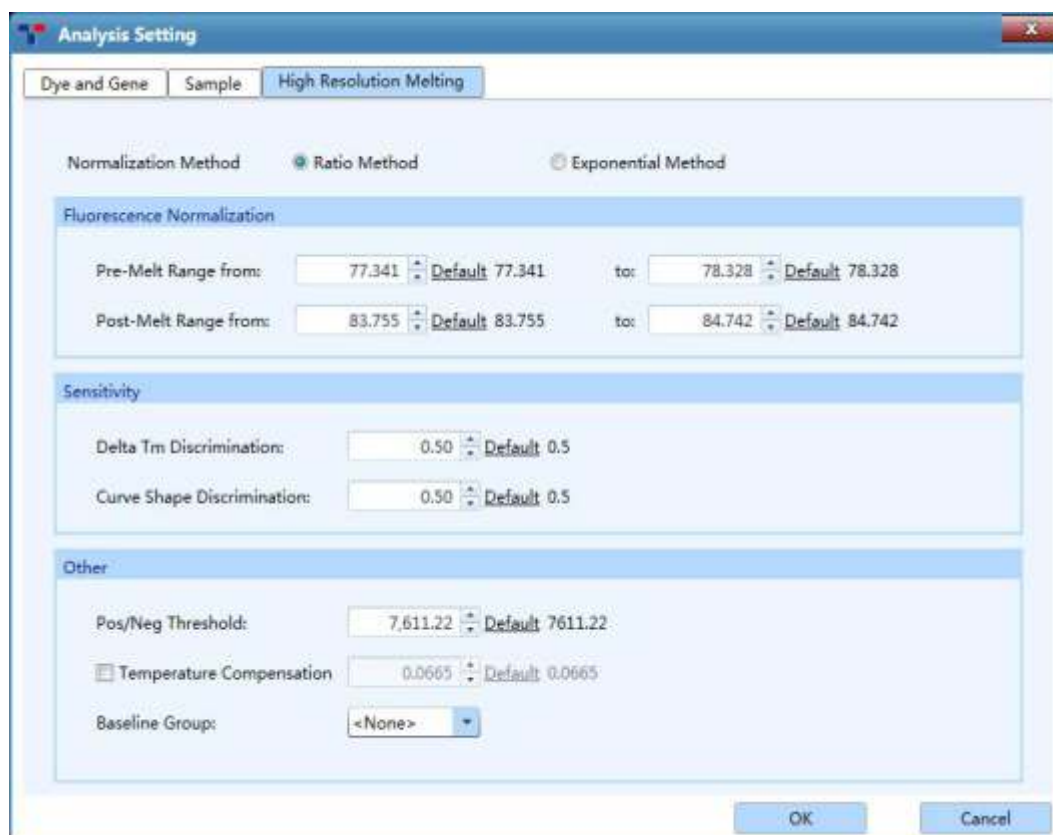

Figure D- 15. High Resolution Melting Analysis Setting interface - High Resolution Melting tab
- **High Resolution Melting** tab: users can set the **Normalization Method**, **Fluorescence Normalization**, **Sensitivity** and **Other** parameters for the current analytical method as shown in figure D-15.